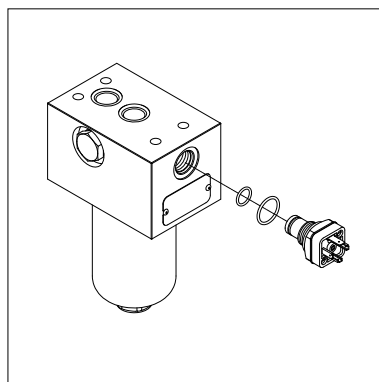

fig. 23
- (Fig. 23) Unscrew the indicator body